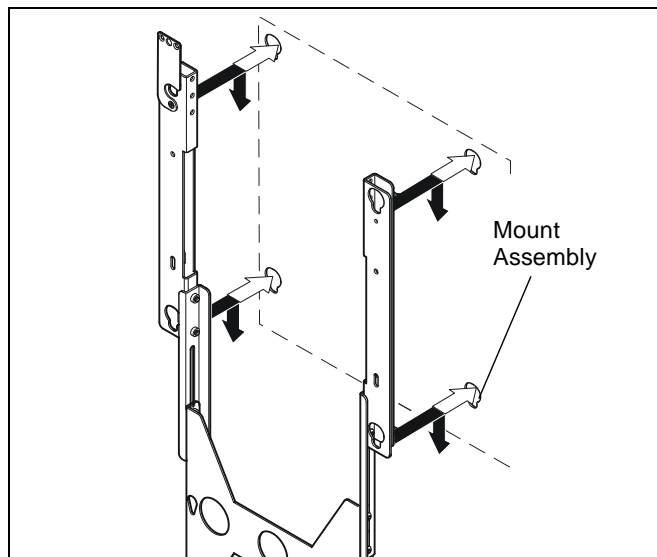

**Figure 4**
1. Assemble two 10-24 x 7/8" button head cap screws (I) through upper and lower holes in back side of R.H. speaker mounting bracket (B). (See Figure 4)
- Assemble two mounting buttons (H) onto two button head cap screws (I) into R.H. speaker mounting bracket (B).
- Secure mounting buttons (H) to R.H. speaker mounting bracket (B) using two Nylock nuts (P). (See Figure 4)
- Assemble two 10-24 x 7/8" button head cap screws (I) through upper and lower holes in back side of L.H. speaker mounting bracket (A). (See Figure 4)
- Assemble two mounting buttons (H) onto two button head cap screws (I) in L.H. speaker mounting bracket (A). (See Figure 4)
- Secure mounting buttons (H) to L.H. speaker mounting bracket (A) using two Nylock nuts (P). (See Figure 4)